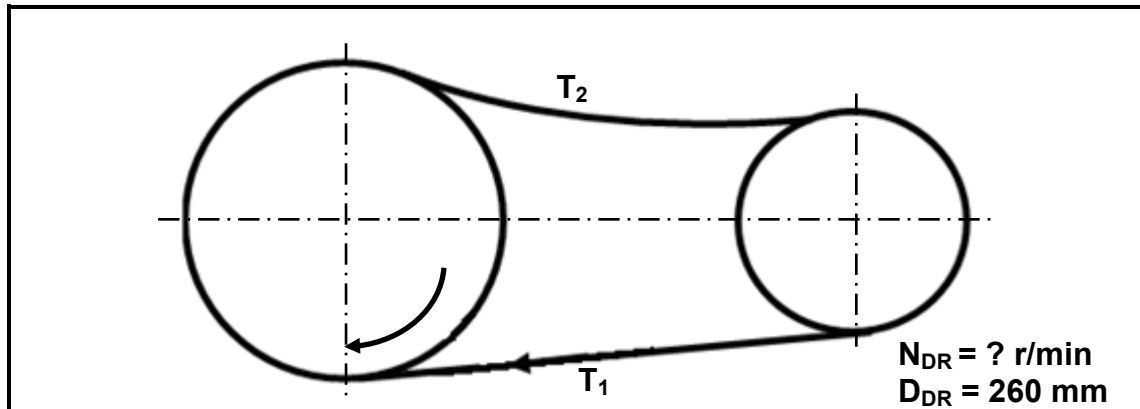

FIGURE 9.2
- 9.2 FIGURE 9.2 below shows a belt drive system with a 260 mm driver pulley. The belt speed of the system is 32 m.s^{-1} . The tensile force in the slack side is 140 N and the ratio between the force in the tight side and the force in the slack side is 2,5.